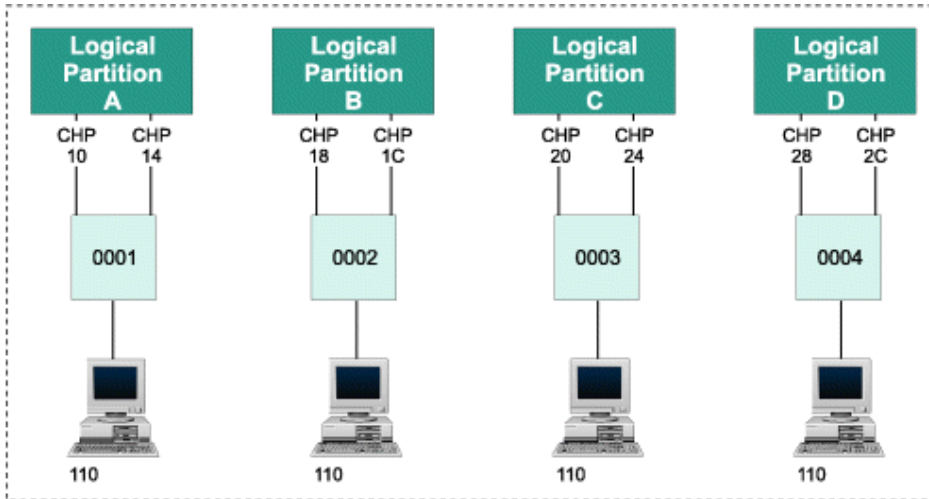

Figure 18. Duplicate device numbers for console
If 8 or less channels attach to the device, this method of defining the IOCP input provides greater flexibility because it allows you to move CHPIDs from one LP to another and eliminates possible conflicts (see Figure 18 on page 59).
Figure 18 on page 59 shows another example of a logical partition configuration in which the device number for a console (110) is duplicated for all four logical partitions.